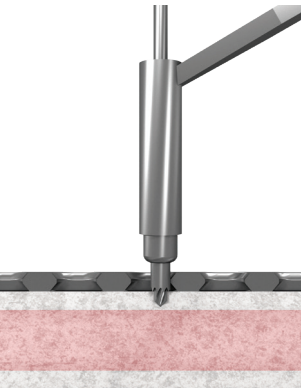

Figure 3
- 8. Drill for a screw fastener on the opposite side of the fracture. For compression at the fracture with Compression Plates, drill eccentrically (Figure 3) with the drill bit away from the fracture.